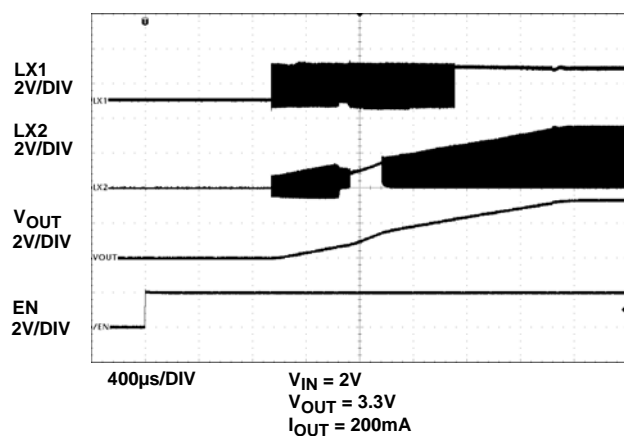

FIGURE 1. ISL91108 START-UP WITH  $V_{IN} = 2V$  and  $V_{OUT} = 3.3V$
7. Monitor the output voltage startup sequence on the scope. The waveforms will look similar to that shown in Figures 1 and 2.